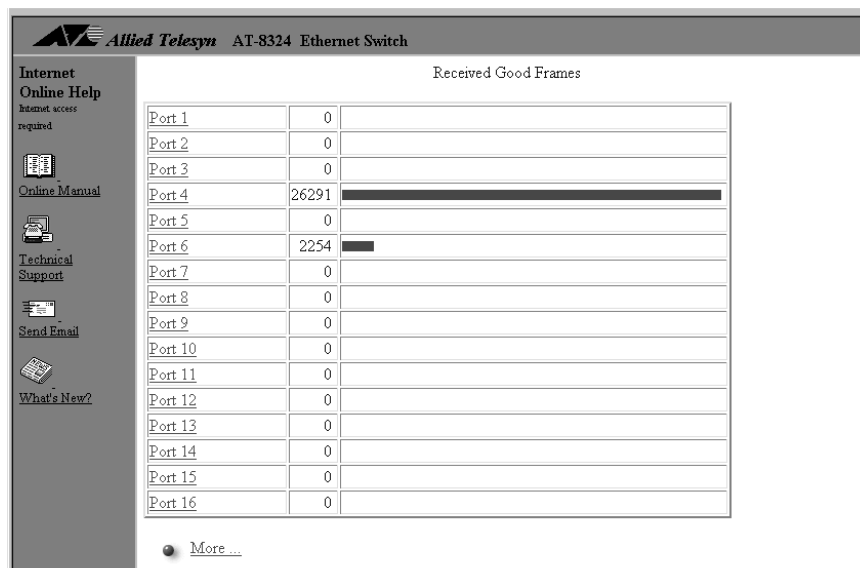

Figure 56 Sample Graph of a Single Frame Type on All Ports
- b. Select a frame type from the Receive Frames window. The statistics for the selected frame type for all of the ports is displayed. A example is shown in Figure 56.